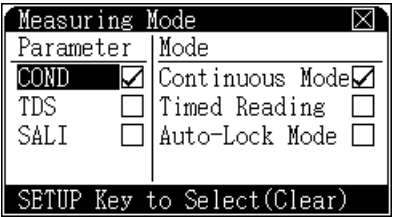

Figure 12 Select a measuring mode
- 4 The **Measuring Mode** screen displays **Parameters** on the left and **Modes** on the right. See Figure 12. Check marks indicate the current selections in use.